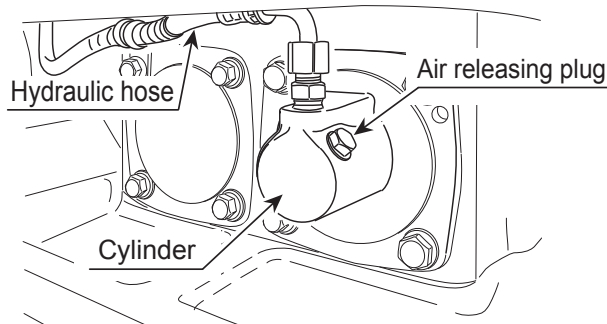

Figure 29. Removing Hydraulic Hose
3. Remove the hydraulic hose connected to the cylinder on the vibrator side (Figure 29).
9. Remove the air releasing plug on vibrator cylinder. Oil will then come out from the air releasing plug. After air bubbles stop coming out, reinsert plug. Tighten securely (Figure 29).